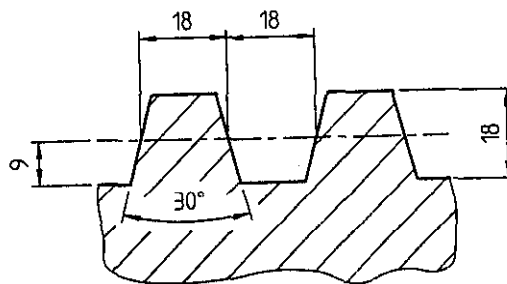

FIG. 3      FIG. 3
3. (a) The profile of two threads of a right hand, single start screwthread is shown in Fig. 3. Draw two full revolutions of a screw with these threads. The threads are cut on a shaft of 120 mm outside diameter. Hidden detail lines/curves are not required.